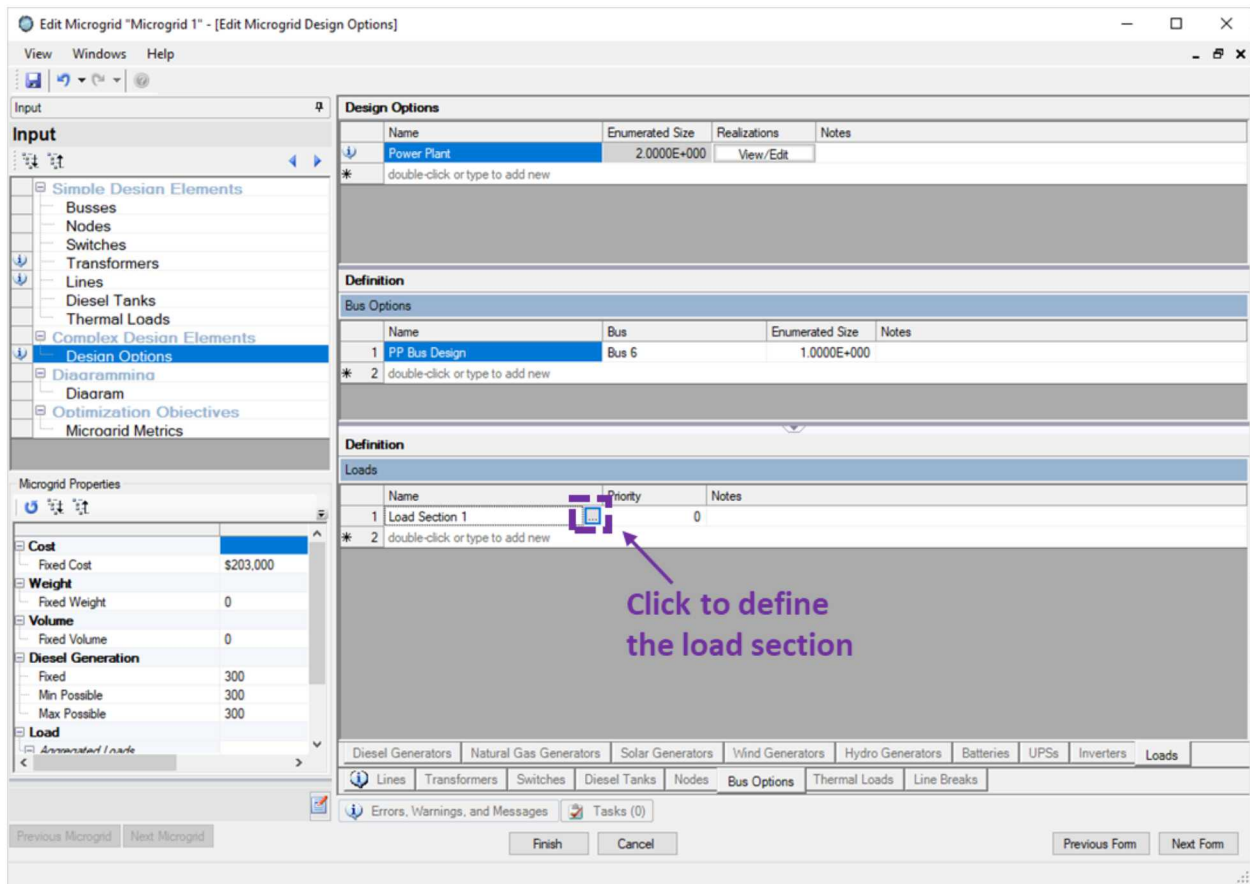

Figure 44. Click the button next to a load section name to define it.
- Electrical Loads – Click in the Name field. Click the ellipses button (highlighted in purple in Figure 44). A new window will open. Define the loads and add load data to the load section. When you have completed entering information about busses, click the “OK” button at the bottom of the screen to close the window.